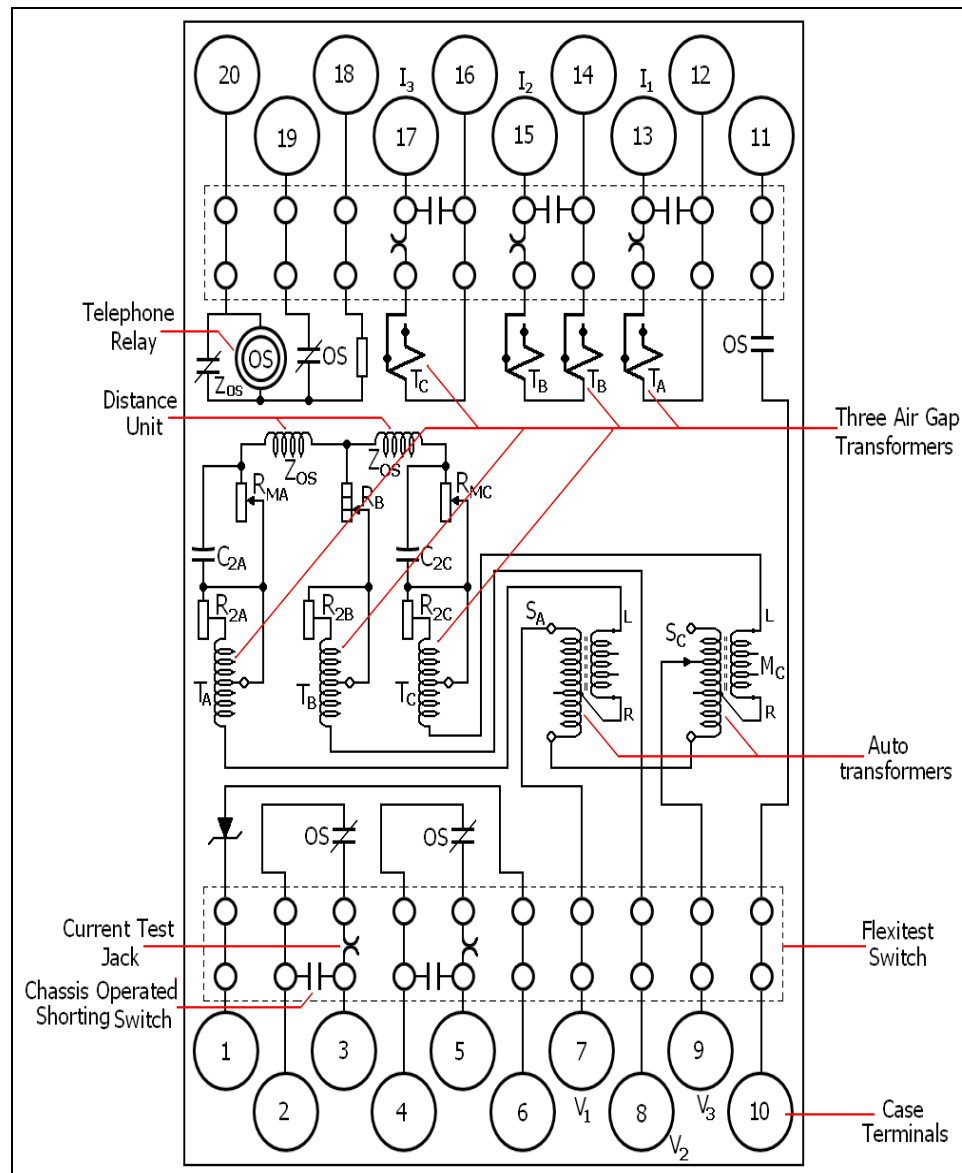

Fig. 2.3-4 Out-Of-Step Relay Internal Connection Diagram
The three air gap transformer (compensators) are designated  $T_A$ ,  $T_B$  -  $T_B$ , and  $T_C$ . The current winding of each compensator has seven taps, which terminate on the tap plate. The compensators provide sensitivity in the case of Out-Of-Step conditions. The autotransformer has three taps on the main winding(s), which are numbered 1, 2 and 3 on the tap block, and winding (M) has four taps, (Fig. 2.3-4). The cylinder unit initiates the blocking. When contacts ( $Z_{os}$ ) close, the electrical connection is made through the stationary contact housing clamp to the moving contact through the spiral spring out to the spring adjuster clamp to short-circuit the telephone type relay coil, (OS). When operating torque causes the contacts to open, then the short-circuit is removed from across (OS) permitting it to be energized.
**Telephone Type Relay:** The telephone type relay unit, (OS) is a clapper unit the delay in operation is obtained by a copper slug, which acts as a lag coil and delays the build up of magnetic lines of force in the core. When the telephone relay is energized, by the opening of the cylinder unit contacts, it opens its several sets of contacts, which are normally connected in series with the KD relay three phase unit contacts and thus prevents completing the trip circuit during an out-of-step condition.